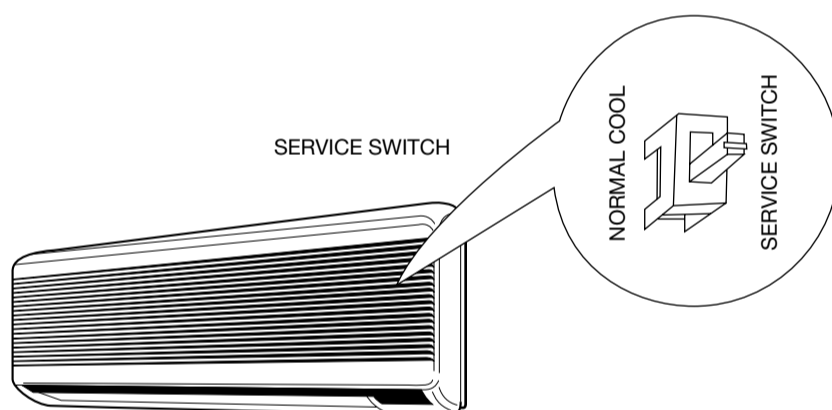

Fig. 8
(1) Confirm the Service switch is set to "NORMAL". (Fig. 8)
(2) The knob should be set to normal position. The knob can be used for cooling operation continuously as temporary measures.